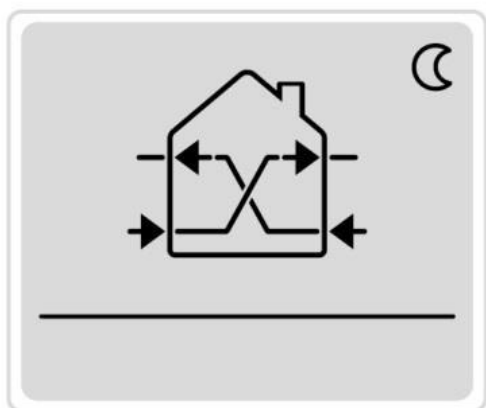

Figure 41
Figure 41 displays the Night Mode icon as it appears on the remote control, allowing users to easily confirm that the correct mode has been activated.
To activate this mode, press the **NIGHT (N)** button on the remote control. The display will show the image above. Figure 41 also reinforces what to expect visually when switching to Night Mode.